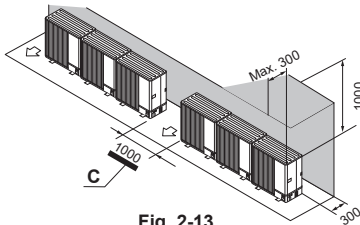

Fig. 2-13
- (2) Obstructions or closed surfaces at rear and above only (Fig. 2-13)
- C: Space (Fig. 2-13)